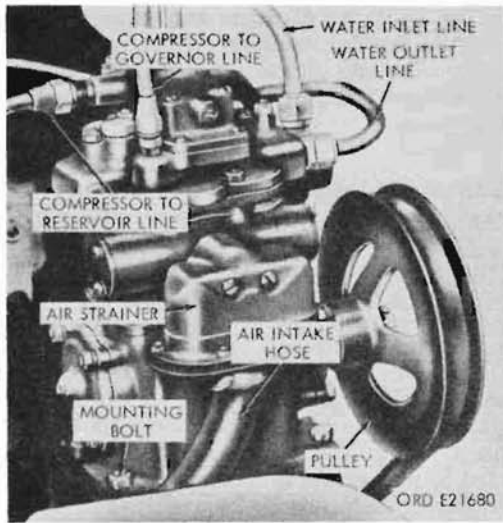
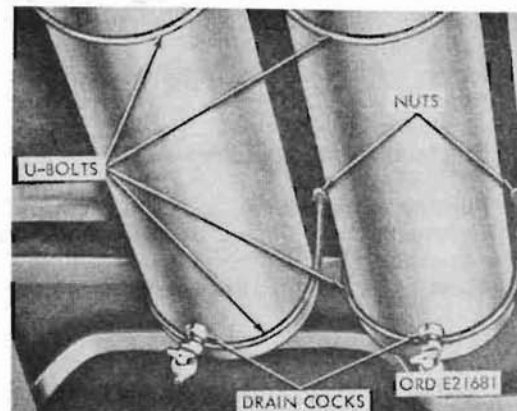
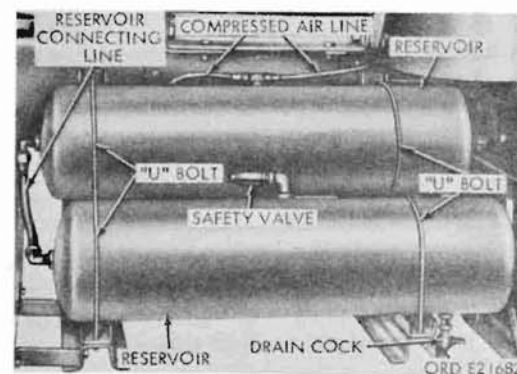

Figure 237. Air compressor - water cooled
Figure 239. Air reservoirs - typical
Figure 240. Air reservoirs - trucks M47, M59, M275 and M342
- (1) Air compressor (water-cooled). The air compressor (fig. 237) is a two-cylinder, single-acting type mounted on the right side of the gasoline engine, and is belt driven. The compressor cylinder head is water-cooled, the coolant being circulated through it from the engine cooling system. An unloading valve mechanism in the cylinder head automatically unloads the compression stroke when the air pressure reaches predetermined maximum of 100 to 105 psi as controlled by the air governor. An air strainer (fig. 244) mounted on the side of the compressor cylinders filters the incoming air.
- (2) Air compressor (air-cooled). The two-cylinder, single-acting type, air-cooled air compressor is mounted to a mount-
- (4) Air reservoirs. The air reservoirs (figs. 239 and 240) are two steel cylindrical drums. Their function is to maintain an adequate supply of compressed air during the times the truck is in operation. The trucks M47, M342, M59, and M275 have reservoirs (fig. 240) mounted on the right side of the vehicle behind the cab and outside of the frame. The M60 and M108 trucks have one reservoir under the vehicle within the frame and the other outside of the frame under the oil reservoir. All the other models have the reservoirs suspended from the frame underneath the
vehicle to the rear of the transfer. Reservoirs are mounted side by side (fig. 239) or separated, depending on the presence of auxiliary equipment. All the reservoirs are secured by large "U" bolts.
a. Removal. Open draincocks (fig. 239) and drain air reservoirs. All lines and fittings are removed in similar manner. Disconnect lines by unscrewing fitting nuts. Unscrew and remove sleeve fittings.
b. Removal. Open draincocks (fig. 239) and drain the air reservoirs. Unscrew the valve, couplings, or draincocks, and remove.
- (1) Remove radiator (par. 85).
- (2) Loosen the setscrew on the inside of the pulley hub (fig. 237) and unscrew flange of hub. Remove the drive belt from the pulleys.
- (3) Remove the cotter pin and locknut securing the pulley on the shaft. Remove the pulley, being careful not to lose the key in the shaft.
- (a) Open draincocks (fig. 239) and release air pressure. Disconnect air outlet line from air compressor. Remove air compressor drive belt (par. 218).
- (c) Remove four (4) nuts and lockwashers securing the air compressor to mounting bracket and remove compressor.
- (2) Installation. Install items removed in reverse order of removal, using new gaskets where required.
b. Water-cooled (Fig. 237).(1) Removal.
- (a) Open draincocks (fig. 239) and drain air reservoirs.
- (1) Removal. Open draincocks (fig. 239) and drain air reservoir. Disconnect the compressor-to-governor line, governor-to-manifold line, and reservoir-to-governor line from the governor. Remove two nuts and screws securing the governor to the dash panel, and remove the governor. Remove the line fittings from the governor.
- (2) Installation. Install 3/8 x 1/4 tee in the governor strainer body capnut, and 3/8 x 1/8 large connector in governor body. Secure the governor to the dash panel with two hex-head screws and safety nuts. Connect compressor-to-governor line to the connector, and the governor-to-manifold line and reservoir-to-the governor line to the tee on the governor. Close the reservoir draincocks.
- (1) Removal. Open draincocks (fig. 239) and drain air reservoirs. Disconnect the compressor-to-governor line, governor-to-manifold line, and reservoir-to-governor line from the governor to the dash panel, and remove the governor. Remove the tube fittings from the governor.
- (2) Installation. Install an elbow in the outlet port of the governor, and a tee in the inlet port of the governor. Install the